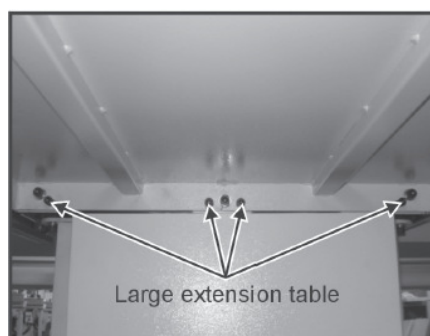

Fig. 6
3. Attach the large extension table with three M10-1.5 x 25 cap screws, lock washers and flat washers. (Fig. 6)